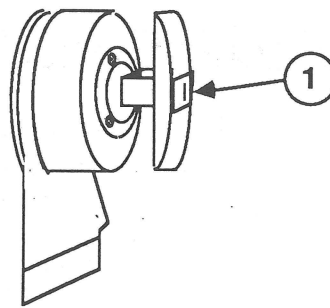

FIGURE 8
8. Clean the dot head (Figure 8, #1) with a lint-free cloth and a low-residue cleaner such as isopropyl alcohol or Freon.